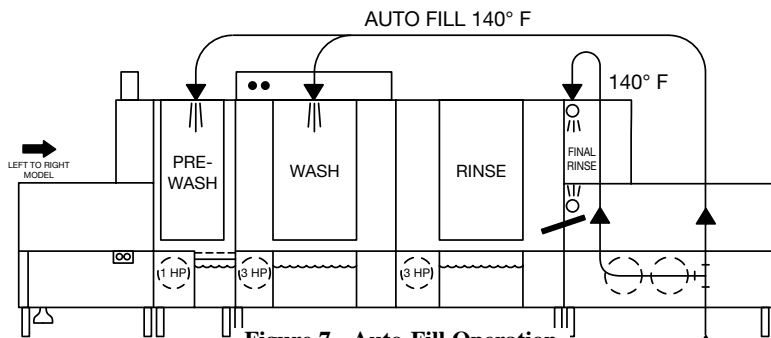

Figure 7 - Auto-Fill Operation
10. Fig. 7 illustrates the automatic fill operation.